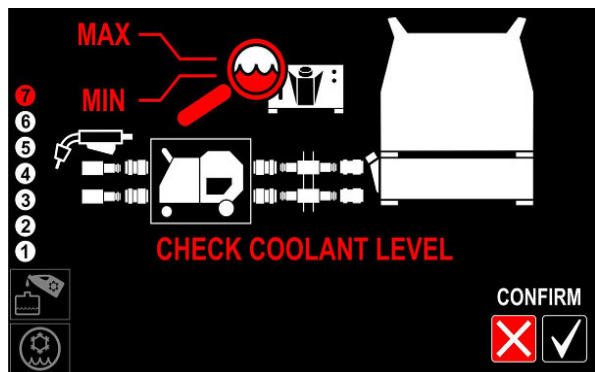

Figure 20
- Check the coolant level and add if required fill in coolant to reach level between minimum and maximum, which is present on front label **COOL ARC® 60** - (Figure 20 or 28).